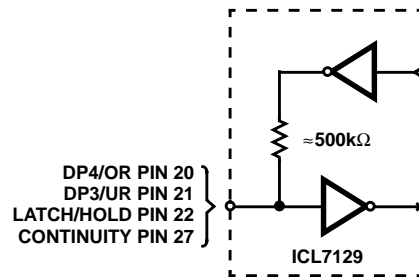

FIGURE 6. "WEAK OUTPUT"
Four pins of the ICL7129 can be used as either inputs or outputs. The specific pin numbers and functions are described in the Pin Description table. If the output function of the pin is not desired in an application it can easily be overridden by connecting the pin to V+ (HI) or DGND (LO). This connection will not damage the device because the output impedance of these pins is quite high. A simplified schematic of these input/output pins is shown in Figure 6. Since there is approximately 500kΩ in series with the output driver, the pin (when used as an output) can only drive very light loads such as 4000 series, 74CXX type CMOS logic, or other high input impedance devices. The output drive capability of these four pins is limited to 3μA, nominally, and the input switching threshold is typically DGND + 2V.